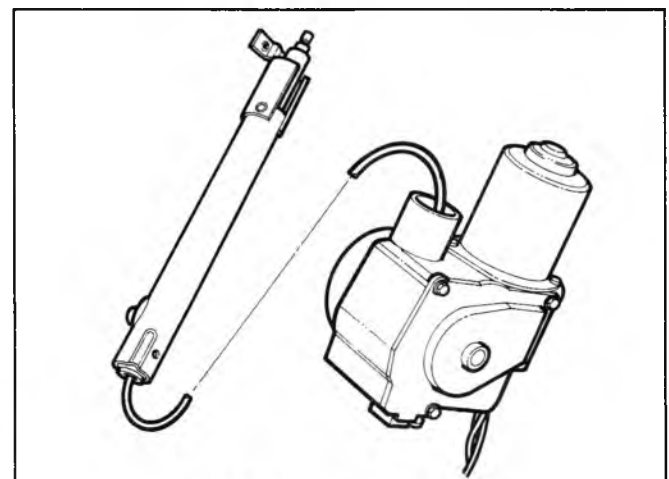

Fig. 9-14R-Cable Installation
1. Refer to Figure 9-14R and start cable in the gear housing with cable looped in the direction shown.